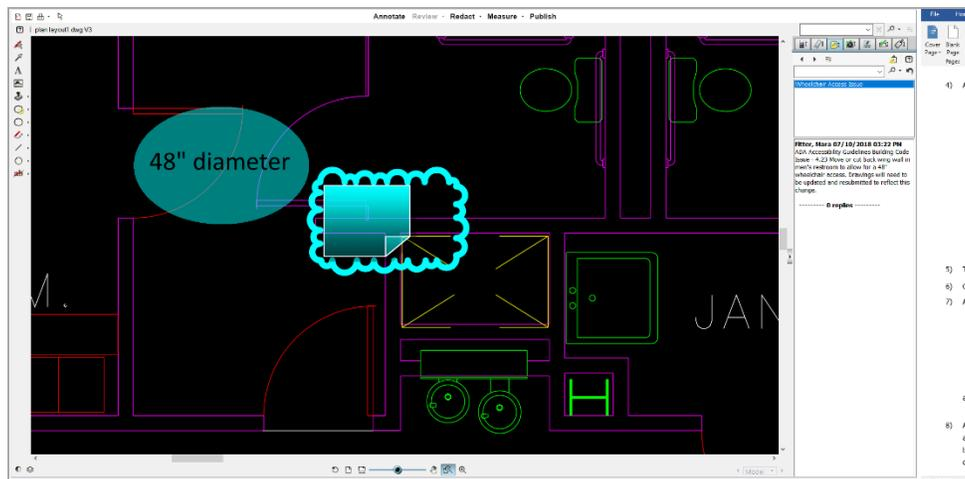

Figure 17.2 Wheelchair Access Issue
In this exercise, you will create several markups to the file regarding a wheelchair access issue. At the end of this exercise, your markup should look like Figure 17.2
- 4) Create an Oval/Circle as seen in Figure 17.2 by locating the **Rectangle** tool and clicking the arrow to display the additional tools. Click the oval/circle tool. Click and drag in the desired location to create the circle. (You'll create the changemark and cloud later.)
- 8) Add a Changemark and cloud to the file (as seen in Figure 17.2) by clicking the arrow to the right of the Changemark  icon, and selecting the Changemark cloud  icon. Release the left mouse button to select the tool.